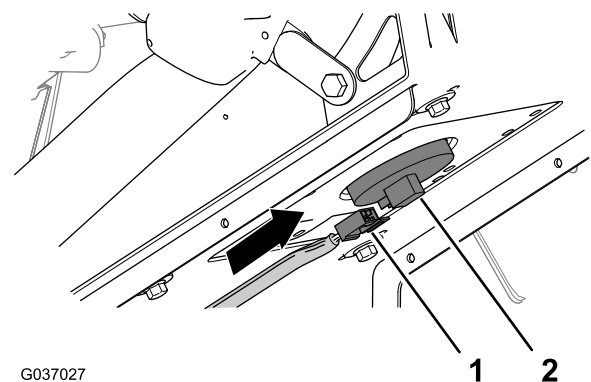

Figure 64
- Connect the electrical connector of the chassis harness to the seat-switch connector (Figure 64).